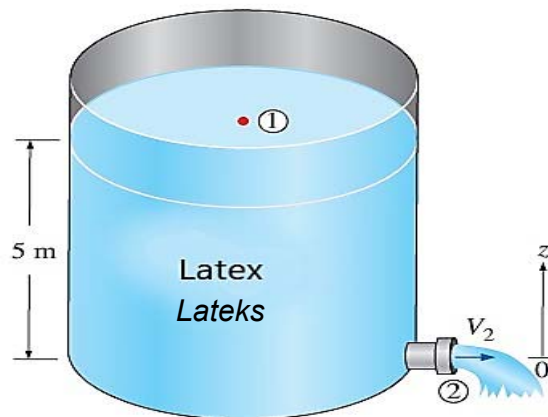

Figure 2: Latex drain out from the tank.
- (d). A large tank where the lid is opened to the atmosphere is filled with latex to a height of 5 m from the outlet tap (**Figure 2**). A tap near the bottom of the tank is now opened, and latex flows out from the smooth and rounded outlet. Determine the maximum latex velocity at the outlet with suitable assumption that need to be considered.